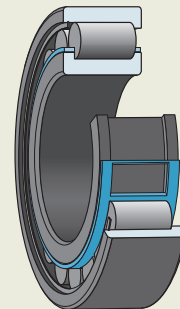

Fig. 13
- are identified by the designation suffix N (fig. 13)